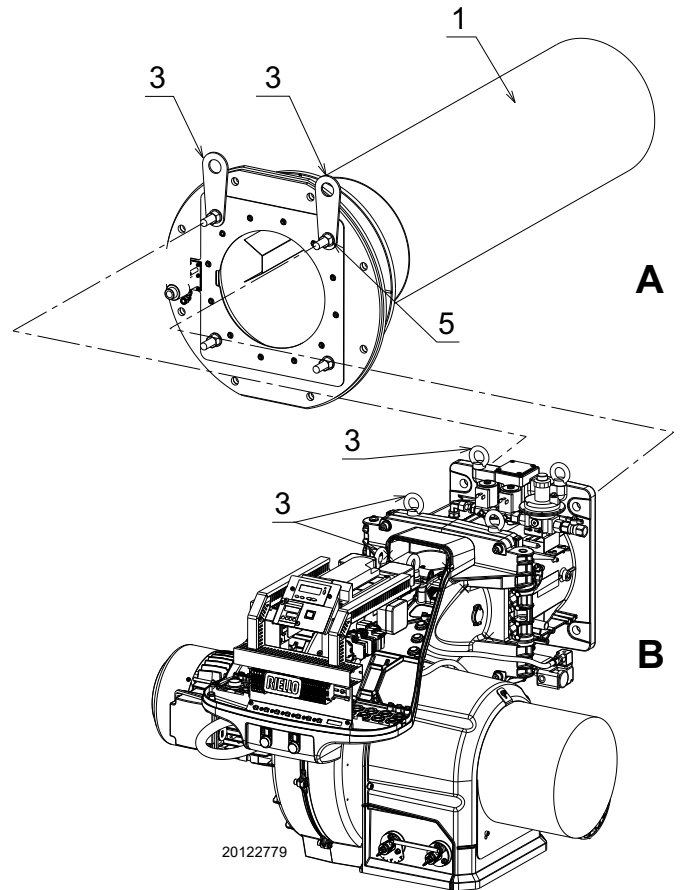
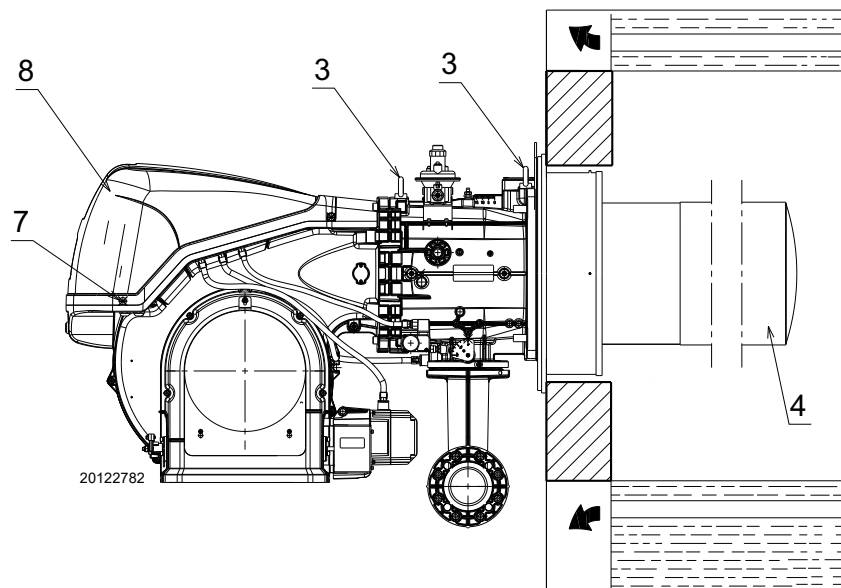

Fig. 19
Fig. 20
Prepare a suitable lifting system using the rings 3)(Fig. 19), after removing the fixing screws 7) of the casing 8).
- Insert the head assembly on the previously prepared boiler hole (Fig. 19) and fix with the M18 screws.
- Lift the burner by means of the rings 3)(Fig. 19) after having removed the cover 8) fixing screws 7)(Fig. 20).
- Fix the burner onto the head assembly with the supplied screws 5)(Fig. 19).